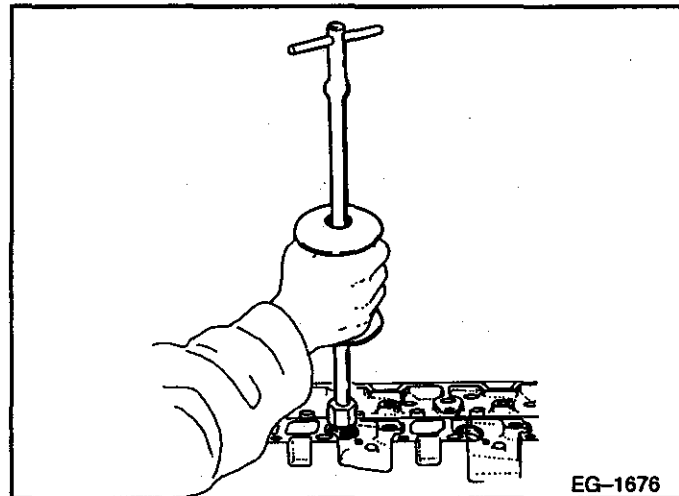

FIGURE 7-24
2. Connect a slide hammer to the adapter and pull the liner from its bore. Refer to **FIGURE 7-24**.